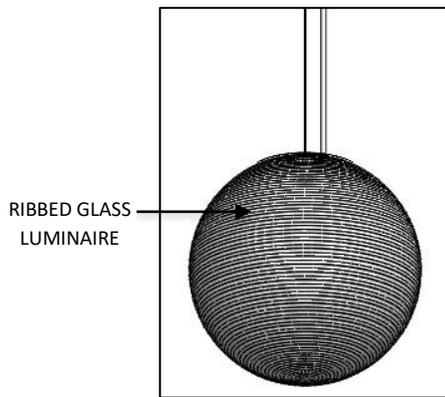

FIG.2 -RIBBED GLASS LUMINAIRE
1. RIBBED GLASS LUMINAIRE with CORD and AIRCRAFT CABLE attached. (Pre-assembled as shown in FIG. 2)